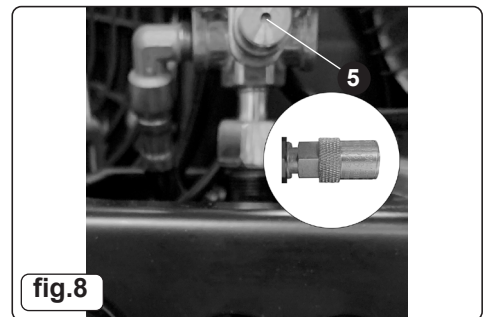

fig.8
- 6.5.1. The safety relief valve in fig.8 has been set for the highest permitted pressure of the tank. It is prohibited to adjust the safety relief valve or to remove its seal. The safety relief valve works automatically and requires no maintenance by the user.